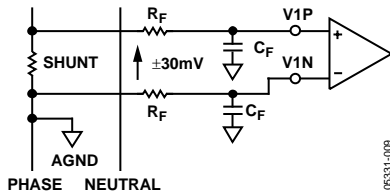

Figure 20. Typical Connection for Channel V1
Figure 20 shows a typical connection diagram for Channel V1. A shunt is the current sensor selected for this example because of its low cost compared to other current sensors, such as the current transformer (CT). This IC is ideal for low current meters.